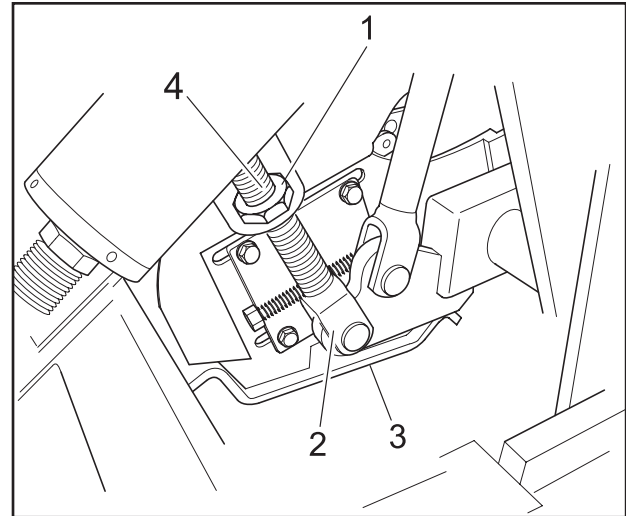

FIGURE 3-12. FEEDER ASSEMBLY ADJUSTMENT
4. Adjust feeder height off the transition plate to 1 1/2" to 2" using nut 1 in figure 3-12.
- B. Loosen jam nut (1) in figure 3-12
- C. Turn nuts (1) on both sides of machine the same amount keeping the feeder level.